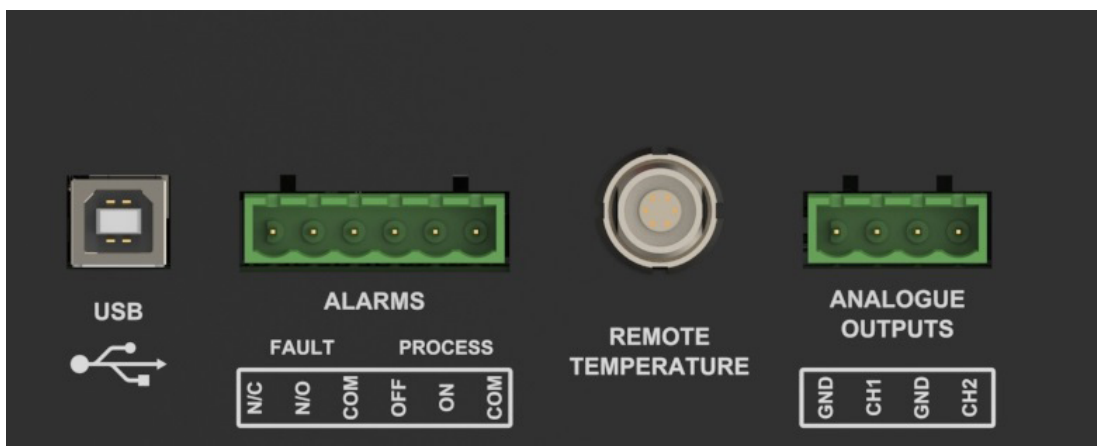

Figure 6 Alarm and Analog Output Connection
The two alarm output ports are connected to the instrument via a single 6-way, push-fit connector block as shown in Figure 6. Each output comprises a 3-wire set of potential free, change-over relay contacts.
1. Align the red dot on the body of the temperature probe connector with the red dot on the socket labelled **REMOTE TEMPERATURE** (see Figure 6).
3. To remove the connector, slide the connector's body collar (1) back along its axis, away from the instrument, to release the lock. Gently pull the connector body out of the socket. **NOTE: Do not attempt to pull the connector out with the cable – make sure that the collar is released first.**
1. Check the orientation of the connector and gently push it into the communications socket (see *Figures 6 and 7*).